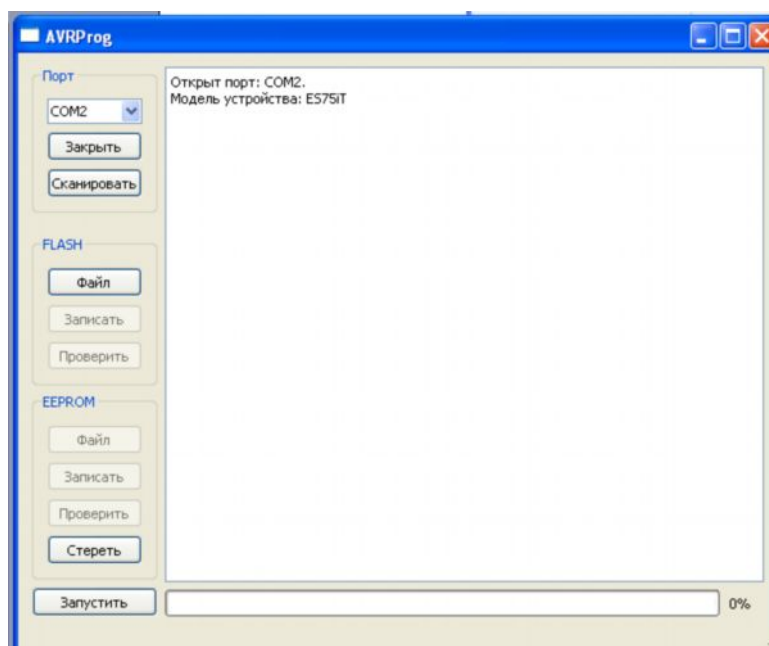

Fig.3
3. Connect the modem (without the SIM tray) to the computer. Feed power supply to the modem. The modem is to jump to the programming mode. Flashing of the LED indicator (green) - 250 ms off/250 ms on. Click “Open”. Thereupon the device model is to be displayed (Fig.3).